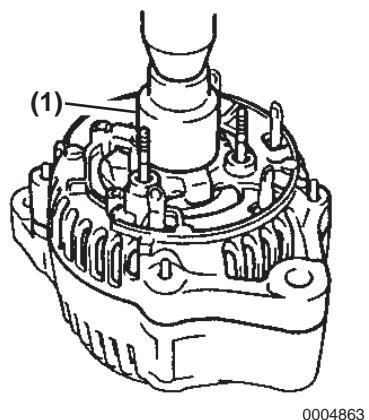

Figure 11-37
3. Slowly press on the rectifier end frame using a 29 mm socket wrench and a press (Figure 11-37, (1)).